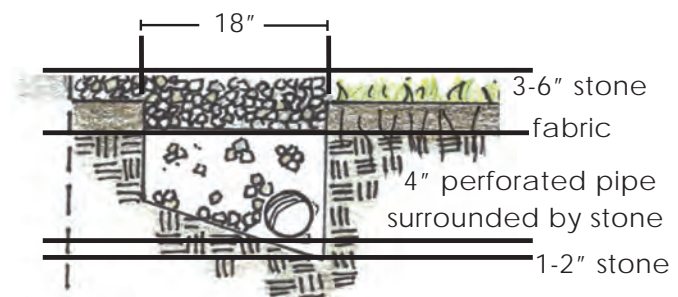

Figure 2. Profile for slowly draining soils.
*For Slowly Draining Soils:* **Fill the bottom 1" - 2"** of the trench with crushed stone. Lay a 4" perforated pipe with the holes facing up along the trench. The end of the pipe should either outlet to a vegetated area with a splash guard to prevent erosion or to another treatment practice such as a dry well or a rain garden. The pipe should be sloped toward the outlet so the water easily flows out of the pipe. Consider screening or adding another type of rodent guard on the exposed end of the pipe to prevent animals from nesting and clogging the pipe. Fill the trench with 1/2" to 1 1/2" crushed stone until it is about 3 inches below the ground level. Place a piece of non-woven geotextile fabric over the stone layer and fill the remaining three inches with additional stone (Figure 2).